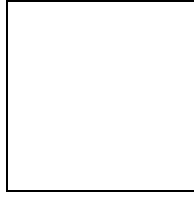

Figure 5
1. Insert Hand: Place your hand comfortably around the aluminum cone inside the hand unit using either left or right bare hand (Figure 5).